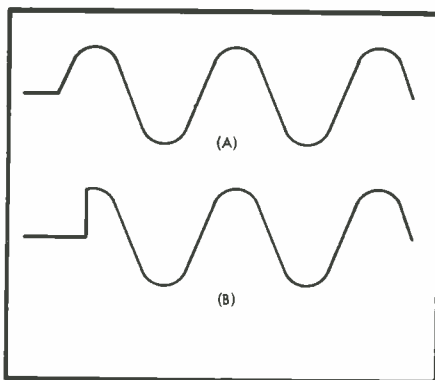
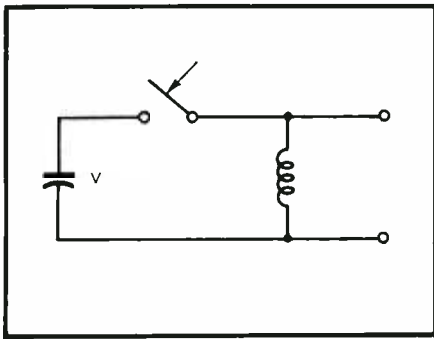
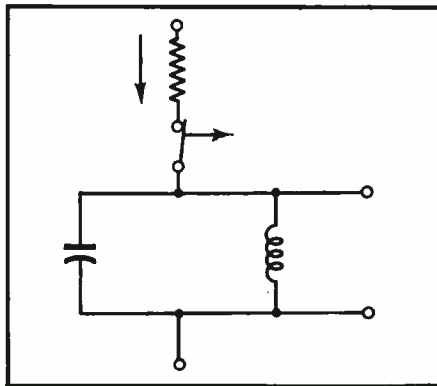
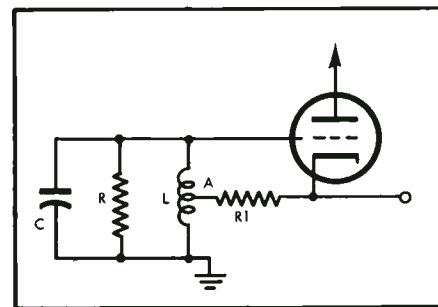

Fig. 1. If you switch a generator into the circuit, you may get (A) or (B) or something in between.
Fig. 2. This circuit will give you the signal of (B) in Fig. 1 every time.
Fig. 3. This circuit will give you the signal of (A) in Fig. 1 every time.
Fig. 4. We can make our cathode follower remove the effective damping of the tank circuit in this fashion.
Fig. 3. Rear upper view of monitor, showing three-chassis format used to clear speaker magnet. Wattmeter subchassis is at right, frequency-meter at left, and main chassis at bottom in this view.
Look now at Fig. 1. Both the wave forms shown satisfy the description given in the last paragraph, but I think you will agree that they are not at all the same sort of transient. These two wave forms represent the extremes you can get with a simple switch depending
It is useful here to think about an ordinary pendulum, a simple weight hanging on the end of a string. Suppose it is hanging quite freely, at rest, and we fire a very fast, very light bullet at the weight. From your schooldays you may remember something about the conservation of momentum, which enable you to work out the velocity with which the pendulum bob will suddenly start to move. Once it is moving, of course, it just swings to and fro, until air damping brings it to rest. This is the sort of behavior we have at (A) in Fig. 1. Suppose, on the other hand, you have an iron bob and to one side you place a solenoid and some ingenious switches. Switch on an enormous current: the bob will fly to one side, trip the switch to disconnect the current and will then be free to swing, just as at (B) in Fig. 1.
The reason for looking first at the pendulum is that it is easy to distinguish the two cases: in the first we begin oscillations by a sudden step in velocity, in the second by a sudden step in displacement. Now we must try to find the electrical equivalent of these, so that we can generate either waveform at will. The easiest circuit to think about is the one shown in Fig. 2. We charge up the capacitor by some means not shown, which is a high hat way of saying put a battery across it just before we are ready to start. When we close the switch the voltage across the coil jumps suddenly to V and the circuit starts to oscillate in the way shown at (B) in Fig. 1. You can find the behavior of this circuit worked out in detail in quite a lot of books but if you will accept the fact that a tank circuit oscillates sinusoidally it is rather easy to see it must be according to (B) of Fig. 1. In the first instant the coil will pass no current so
A circuit which will give us the waveform of (A) in Fig. 1 is shown in Fig. 3. To begin with the switch is closed and a current flows steadily through the inductance. As always in studying simple circuits we assume that components are perfect, so that the coil has no resistance and there is thus no voltage across the capacitor. Then we open the switch. The current in L continues to flow because of the stored magnetic energy, but the only place it can flow to is the capacitor, which begins to charge. When all the magnetic energy, $\frac{1}{2}(LI^2)$ has been converted into electrostatic energy, $\frac{1}{2}(CV^2)$, the current stops, the capacitor starts to discharge and so a current
is started in the opposite direction. And so on. We expect a sine wave out of the tuned circuit: we have seen that the voltage starts off at zero and moves steadily just as in (A) of Fig. 1.
These circuits as they stand are not particularly useful. I am going to concentrate on the simple circuit of Fig. 3, and see why we cannot use it just as it is. The first problem is charging the capacitor, not a very serious problem, because a battery and a switch are all that are needed, but an additional complication. Much more serious is the problem of the switch actually shown in Fig. 3. I know that we are always drawing switches in circuits but when you come to try to get a good cheap switch which has no contact bounce you find you have set yourself a real problem. Every switch I have tried makes and breaks and makes again several times during the first few milliseconds and now, in our problem, every millisecond may be one or more cycle of the input. It is not that they are bad switches, but just that nobody worries normally if there is a little bouncing during the make period.
The introduction of a tube into a circuit without tubes is a very critical step. Like Caesar crossing the Rubicon or a reformed alcoholic taking his first Martini or those people in Boston—how much wiser to have thrown the tax collectors in the sea and drunk the tea—something has been begun which may not easily be stopped. Engineers, I've noticed, are prone to suffer from tubophilia, the love of putting tubes in everywhere they can imagine and this disorder takes many years to cure. However, once you have decided to use a tube there is no reason why you should not make it earn its living. For this reason, I have not drawn a circuit showing the combination of the tuned circuit of Fig. 2 and a cathode follower, which you could draw for yourself anyway. I want the tube to do a bit more work.
Dissipation is always with us, in our circuits, in our nightclubs, and the practical form of Fig. 2 is no exception. Those neat sinusoids of Fig. 1 will decay more or less slowly unless we do something about it. Now that we have introduced a tube into the circuit it is quite easy to counteract the losses in the tuned circuit in a safe and easily controlled way. Let us look at the circuit shown in Fig. 4.